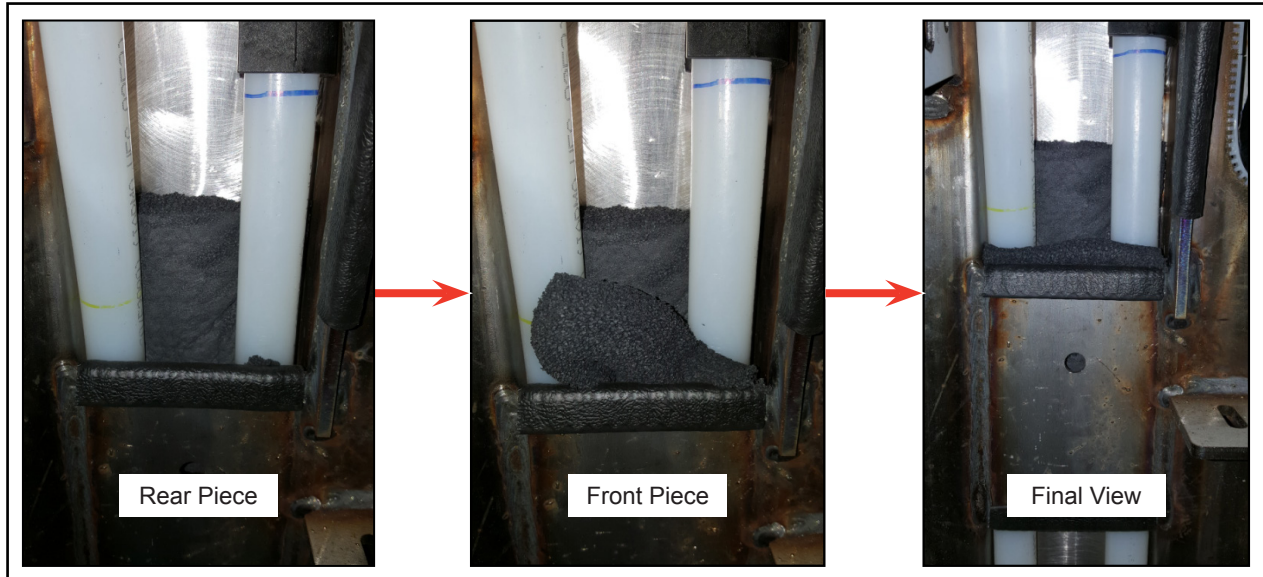

Figure 11 - Typical Method for blocking Air Passages
- 1.19. Use the thicker piece to block the rear of the PEX or copper pipe. Shimmy the foam piece on back of the pipes to block all rear air passages (see Figure 11).
- 1.20. Use the thinner piece to block the front. Pack the foam into place to block all front air passages (see Figure 11).